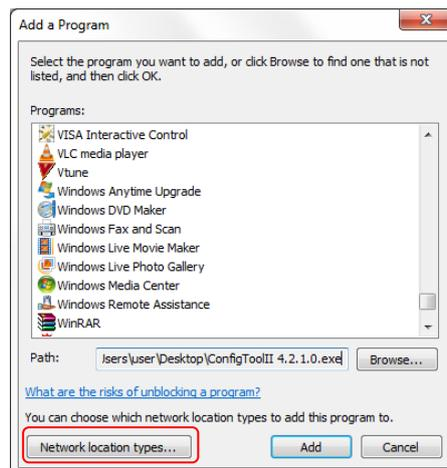

Figure 7 - Choose network location types
7. Click the “Network location types...” button. Refer to Figure 7.